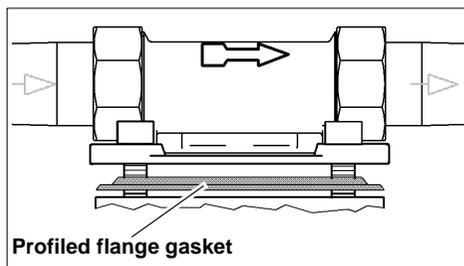

Fig. 10: Built-in rotary flange
- 6 Remove and replace the used profiled flange gasket. The section of the profiled flange gasket must point towards the built-in rotary flange. Failure to observe this can lead to leaks and water escaping. This can in turn cause water damage to the house and its installations (see Fig.10).